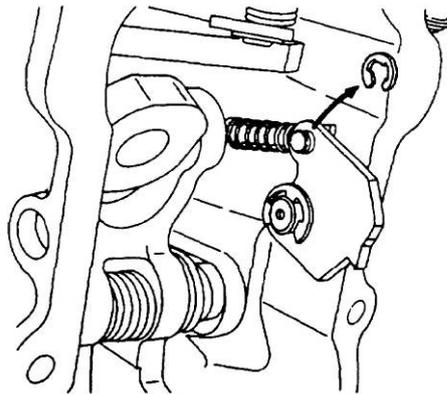

Figure 98 Removal of the Snap-ring
- u. Remove the governor shaft guide screw and locknut from the governor housing. Remove the snap-ring securing the torque cam adjusting rod to the torque cam (Figure 98).